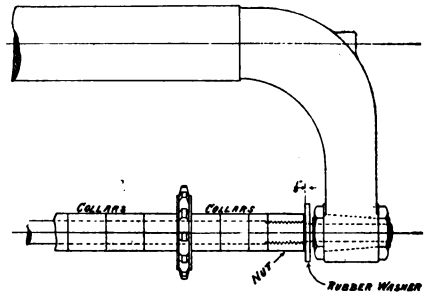

FIG. 2.
2. In order to save the bearing on the end of the cutter arbors, as well as the receptacle for same in the overhanging arm from dust and dirt getting where it does not belong, cut a washer out of a piece of sheet rubber such as the engineer generally carries for packing, and cut the hole slightly smaller than the bearing end of arbor for a snug fit—outside diameter about two inches. This washer should be slipped up to the threaded part of the arbor, as shown in Fig. 2. Now, when the arbor is driven home very firm and the overhanging arm is brought up to the rubber washer with a slight bang, and clamped, your machine is O. K. for duty. The bearing should be oiled *after* the washer is slipped on, otherwise the washer